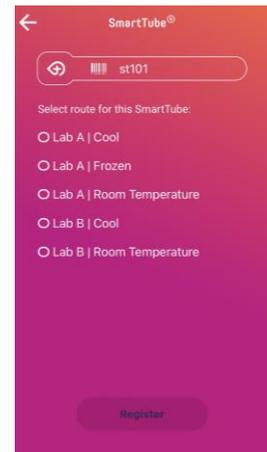

Figure 7 Assign SmartTubes to a route
- c. Tap the  button to select the desired route. Only one route may be selected. After a route has been selected, the  button will appear solid, and the "Register" button will be enabled (see Figure 7).